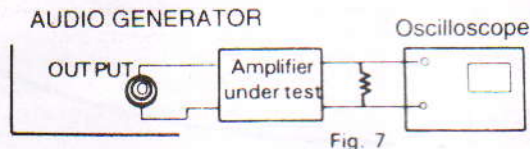

Fig. 7
- 4.1 Connect the instrument, an amplifier to be tested and an oscilloscope as shown in Fig. 7.